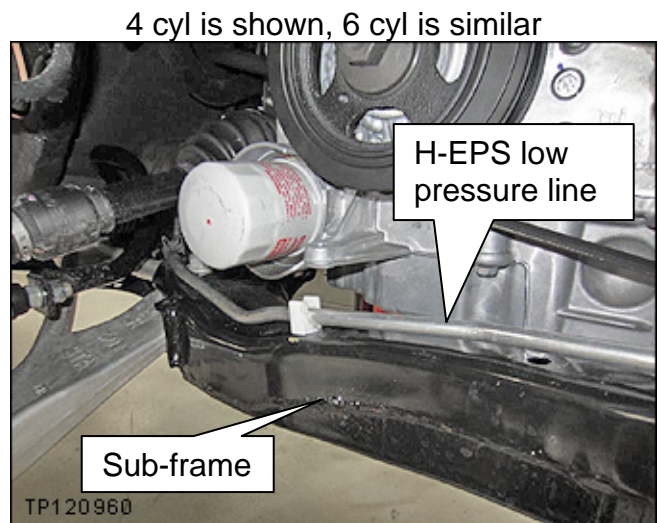

Figure 9
- a. Check the location circled in Figure 9.